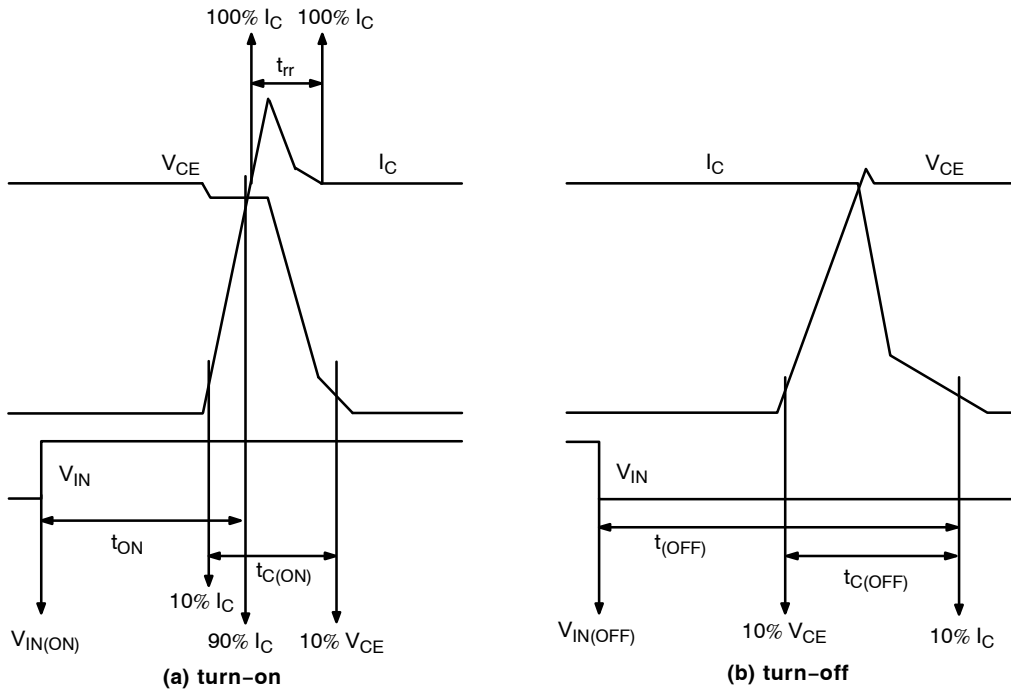

Figure 3. Switching Time Definition
6. tON and tOFF include the propagation delay time of the internal drive IC. tC(ON) and tC(OFF) are the switching time of IGBT itself under the given gate driving condition internally. For the detailed information, please see Figure 3.